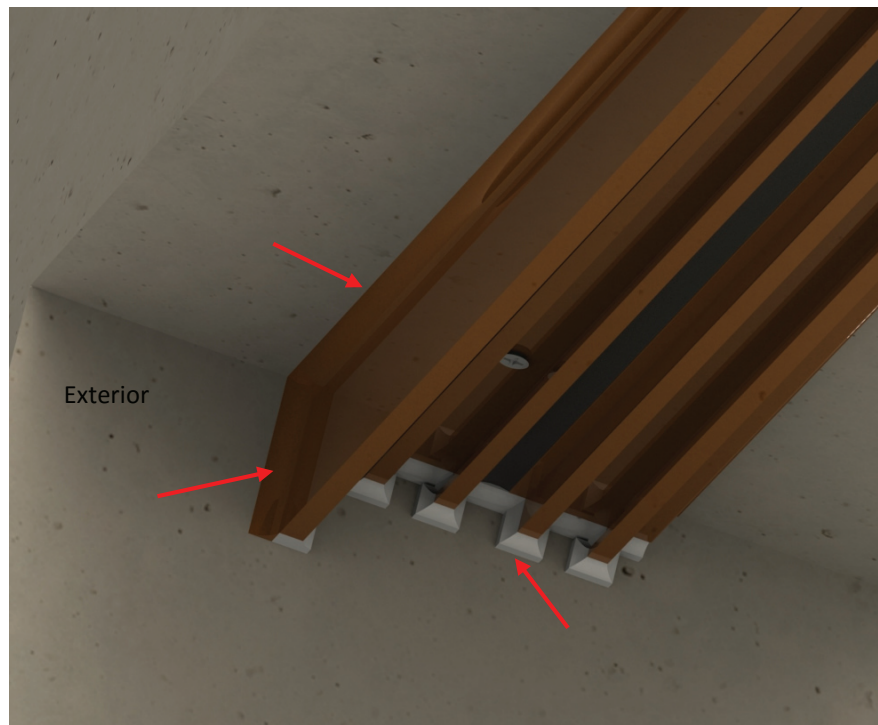

Fig. 12
- E. Apply sealant between receptor exterior and opening. Also seal both ends of head receptor to the opening. (Fig. 12)